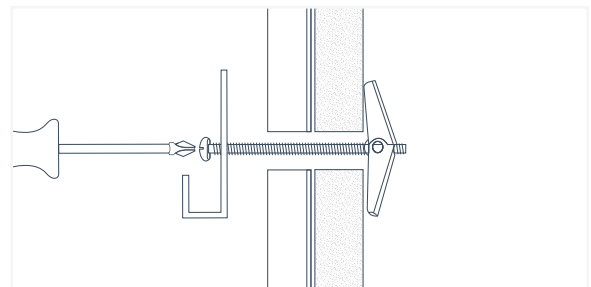

Fig. 53
3. Fold the wings down and insert the end of the bolt into the hole. Push the entire assembly into the hole until you feel the wings pop out behind the Wall&CeilingBoard panel or backer material (Fig. 53).